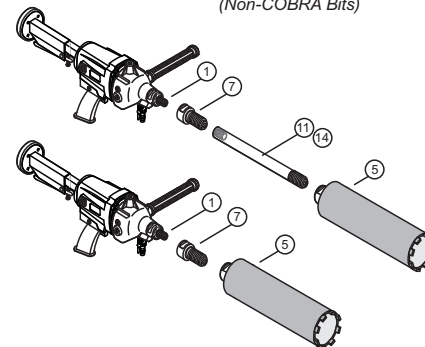

Figure 1. Threads/Adapters and Core Bit Combinations
Figure 1 and Table 1 depict most Adapter/Core Bit combinations and part numbers. The CDM1H is manufactured with an 18mm male drive end that directly connects to all MQ COBRA™ drill bits. For other US standard threading options, the CDM1H includes two adapters: (1) **ADM1858** – that permits connection of 5/8"-11 female threaded bits, and (2) **ADM181147** – that permits connection of 1 1/4"-7 female threaded bits. All other adapters/extensions are available as optional part items.